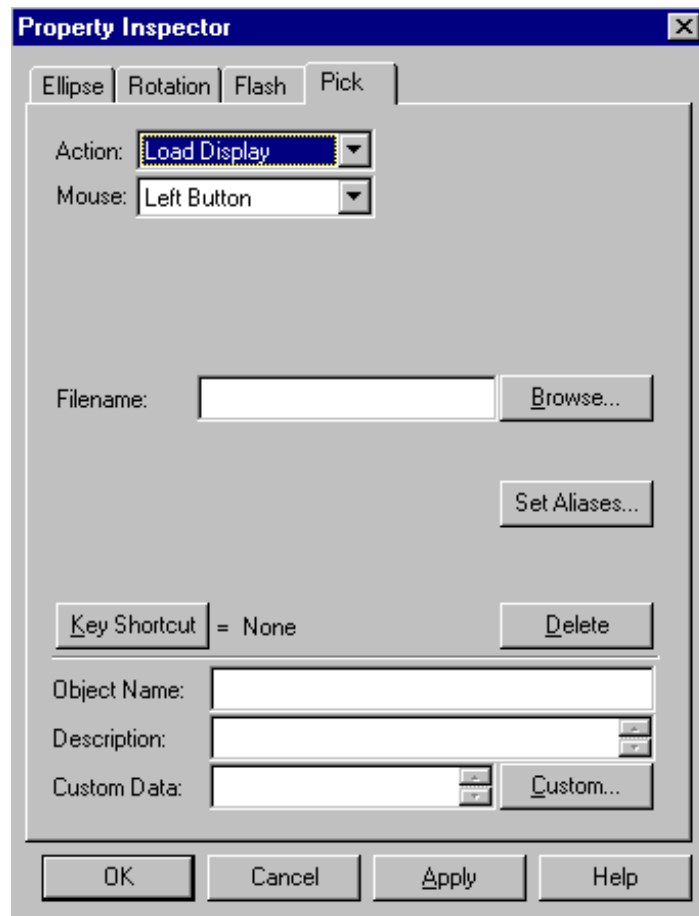

Figure 11-10: Property Inspector Dialog Box- Pick Tab
2. On the Dynamics menu, select Actions > Pick. The Property Inspector dialog box appears with the Pick tab (Figure 11-10).